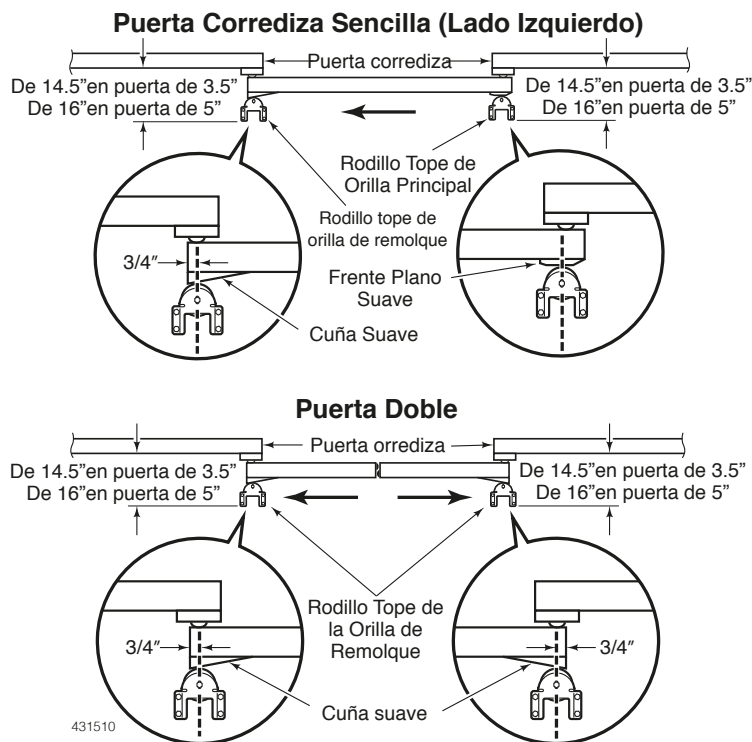

Figure 11
3. Be sure each Stay Roller Lock Nut is centered in the adjustment slot. Note the distance from the wall for *your* door size and type. See Figure 11. With Bi-Parting door(s) fully closed, position the center of the Trailing Edge Stay Roller 3/4" in from the end of the Door Snubber Wedge. For Single Slide Doors, center the Leading Edge Stay Roller on the flat spot on the Door Snubber. See Figure 11.